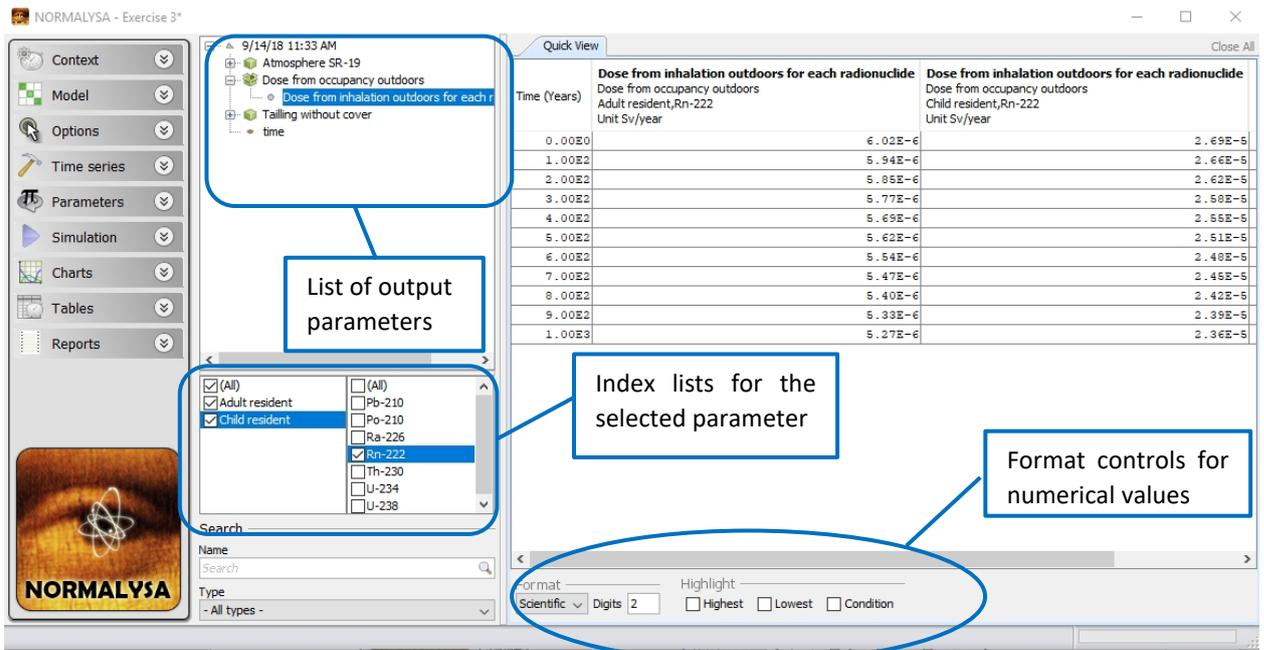

FIG 18. Displaying the table with the calculated inhalation doses from radon to reference persons considered in Exercise 3.
3. The time table displaying results of dose calculations from radon will be shown in ‘*Quick View*’ window (FIG 18).